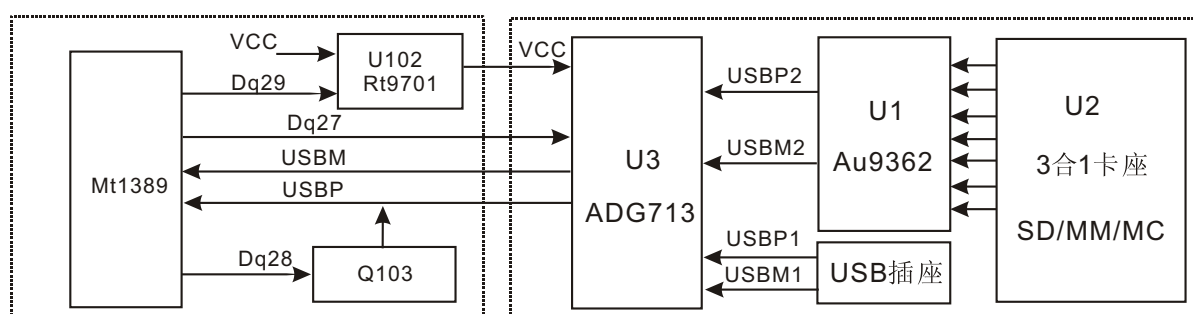

Figure 3.2.14.1 Card read circuit block diagram
1. Card read circuit block diagram is shown in the figure 3.2.14.1: